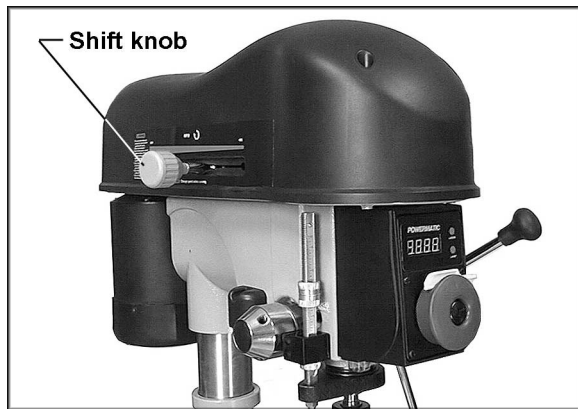

Figure 7
- Insert the shift knob into the collar on the side by screwing it in clockwise (Figure 7).